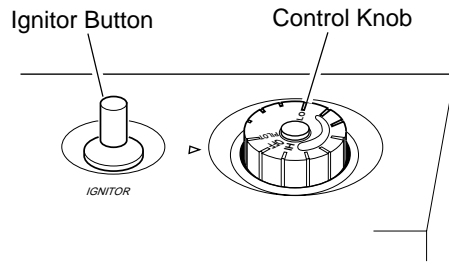

Figure 22 - Control Knob In The OFF Position
4. Wait five (5) minutes to clear out any gas. Then smell for gas, including near the floor. If you smell gas, **STOP!** Follow "B" in the safety information, column 1. If you don't smell gas, go to the next step.
5. Turn control knob counterclockwise to the **PILOT** position. Press in control knob for five (5) seconds (see Figure 22).